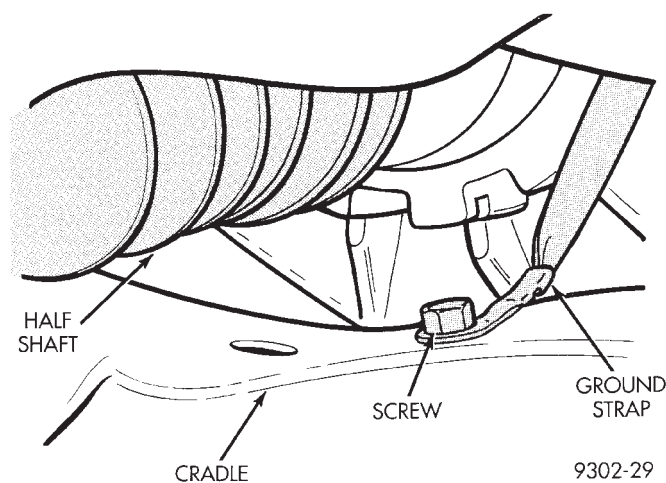

Fig. 12 Ground Strap
(5) Remove ground strap from cradle assembly. Ground strap is located on right side of cradle below half shaft (Fig. 12).